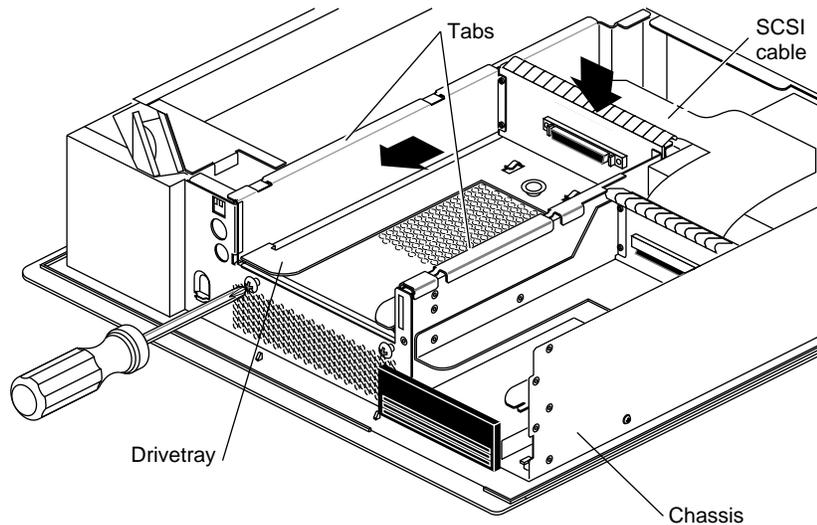

Figure 2-21 Replacing the 5-1/4" Drive Tray
8. Replace the 5-1/4" drive and drive tray, as shown in Figure 2-21.